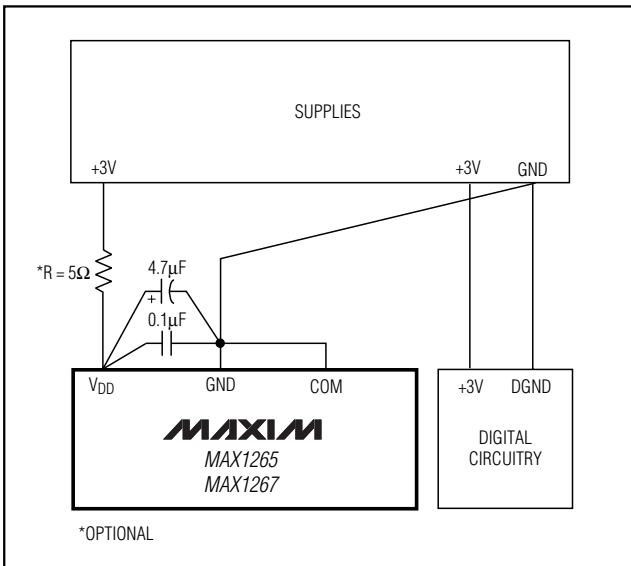

Figure 11. Power-Supply and Grounding Connections
For best performance, use printed circuit (PC) boards. Wire-wrap configurations are not recommended since the layout should ensure proper separation of analog and digital traces. Do not run analog and digital lines parallel to each other, and do not lay out digital signal paths underneath the ADC package. Use separate analog and digital PC board ground sections with only one star point (Figure 11) connecting the two ground systems (analog and digital). For lowest noise operation, ensure the ground return to the star ground's power supply is low impedance and as short as possible. Route digital signals far away from sensitive analog and reference inputs.